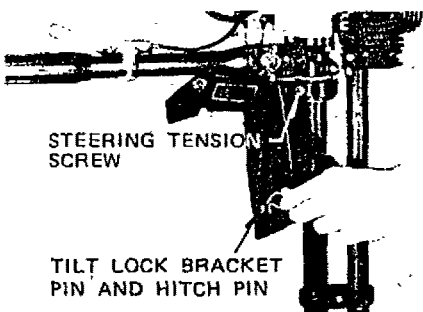

Figure 6
The angle of the motor column is easily adjusted by removing the Hitch Pin and changing the Tilt Lock Bracket Pin in the three (3) different angle position holes located on either side of the right or left Transom Mounting Brackets. Each angle position elevates five (5) degrees. Try center hole position first. (See Figure 6).
Tighten steering tension screw using a screwdriver for desired steering effort. (See Figure 6).